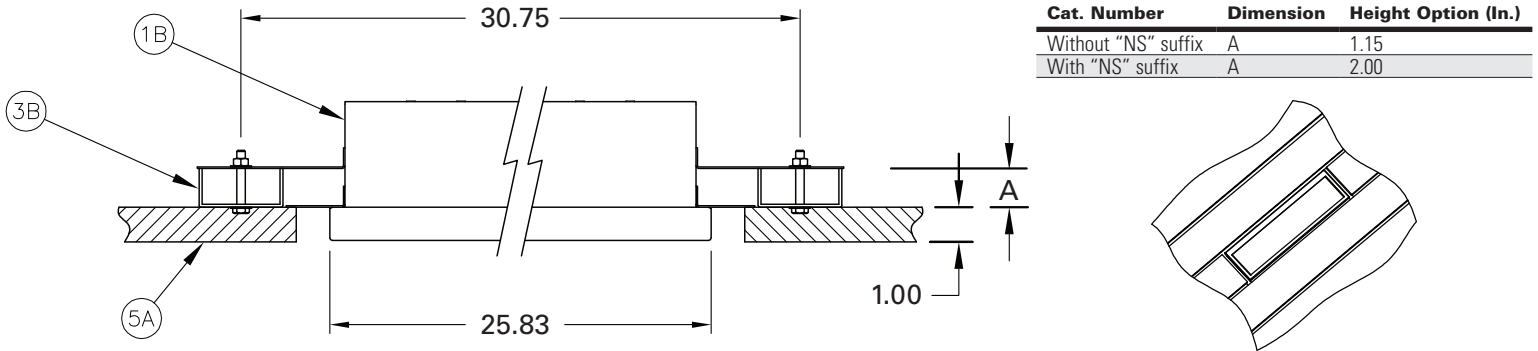

Figure 3.
1. Verify ceiling panel size (5A). See Figure 3.